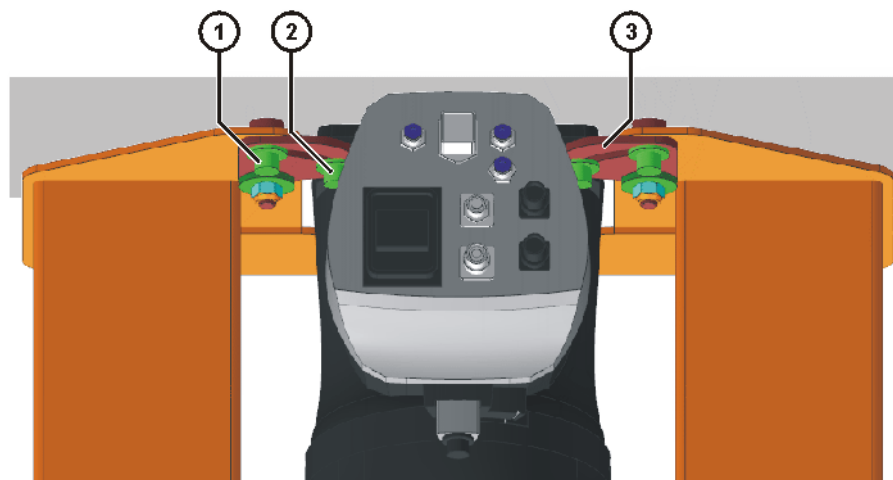

Fig. 11-8: Positioning and fastening the swivel holders
14. Position swivel holders on base frame (>>> Fig. 11-8).